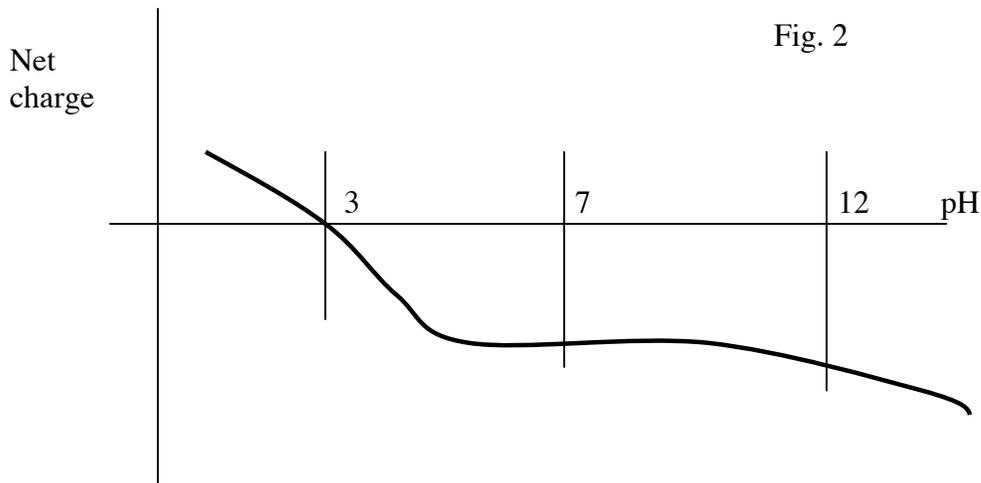

Fig. 2
b) The charge-titration behavior of the tissue is graphed in Fig. 2. (The net charge is due to ionization of sulfate, carboxyl, and amino acid groups on the various matrix macromolecules, which varies with pH).
The known magnitude of the modulus E_a in equilibrium at physiological pH ~ 7 is known. On a graph similar to that in Fig. 2, sketch the relative variation of E_a with pH in the range of pH = 2-12. The important result here is the relative variation with pH, not the exact magnitude at any specific pH.